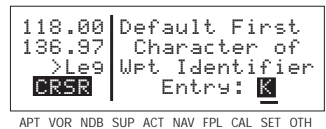

Figure 3-44
- Use the right inner knob to select the desired character (figure 3-44), such as a K in the U.S., a C in Canada, a P in Alaska, an E or an L in Europe, etc.